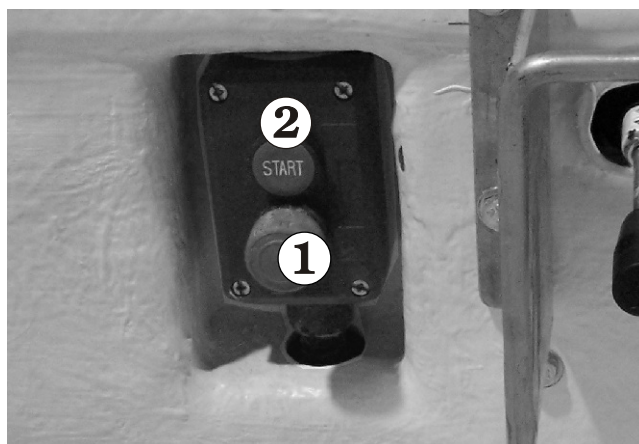

Figure 7.1 - Platform Emergency Stop and Engine Start Controls
1. **Emergency Stop:** Press the red button ① in at any time, under any conditions, and the entire machine stops - the engine turns off and nothing moves (see Figure 7.1). This button must be out (on) to start and run the EPV from the platform. Press the button in (off) if the platform is to stay in one position for a long time. This will stop the engine and save fuel.
2. **Start Button:** Press this green button ② to start the engine from the platform position (see Figure 7.1).